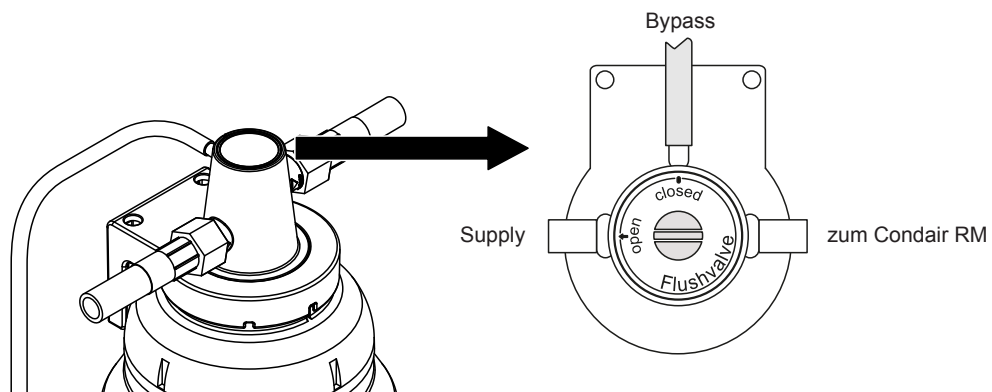

Fig. 16: Turn valve to "Supply" (operating position)
12. Turn valve in the filter head in such a way, that "open" points to "Supply" (operating position, see Fig. 16).